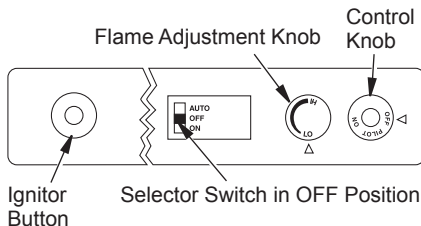

Figure 21 - Control Knob and Ignitor Button Location (Shown as Supplied, No Control Options)
4. Press in and turn control knob clockwise ↻ to the OFF position (see Figure 21).
5. Wait five (5) minutes to clear out any gas. Then smell for gas, including near the floor. If you smell gas, STOP! Follow "B" in the safety information, page 18. If you don't smell gas, go to the next step.
6. Press in and turn control knob counterclockwise ↻ to the PILOT position. Press in control knob for five (5) seconds (see Figure 21).